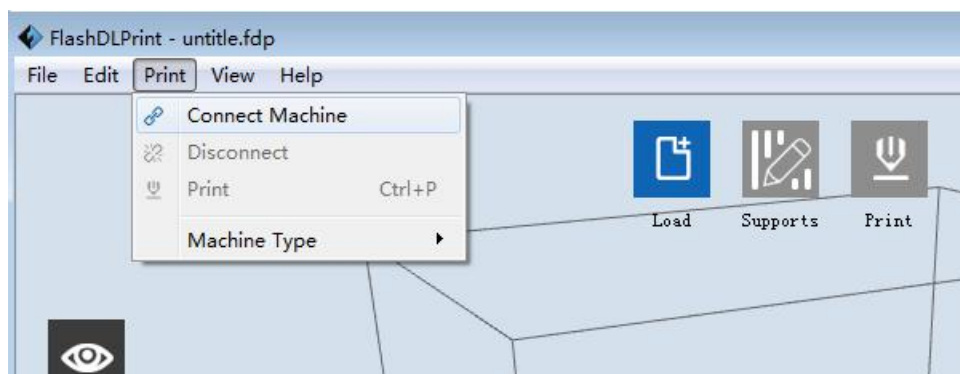
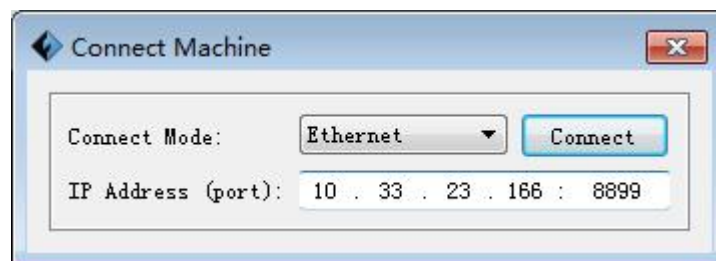

Figure 33 Connection interface
Figure 34 Ethernet connection machine interface
D.Click [Print] - [Connect] in the menu bar, as shown in Figure 33.In the pop-up connect machine dialog box, as shown in Figure 34.Select USB cable / Ethernet as the connection mode, input IP and port, such as 10.33.23.166, and the port is 8899.